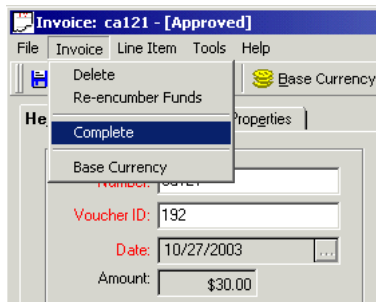

Figure 12-28. Invoice menu
1. From an open approved invoice, select **Complete** from the **Invoice** menu to complete an invoice (see Figure 12-28).